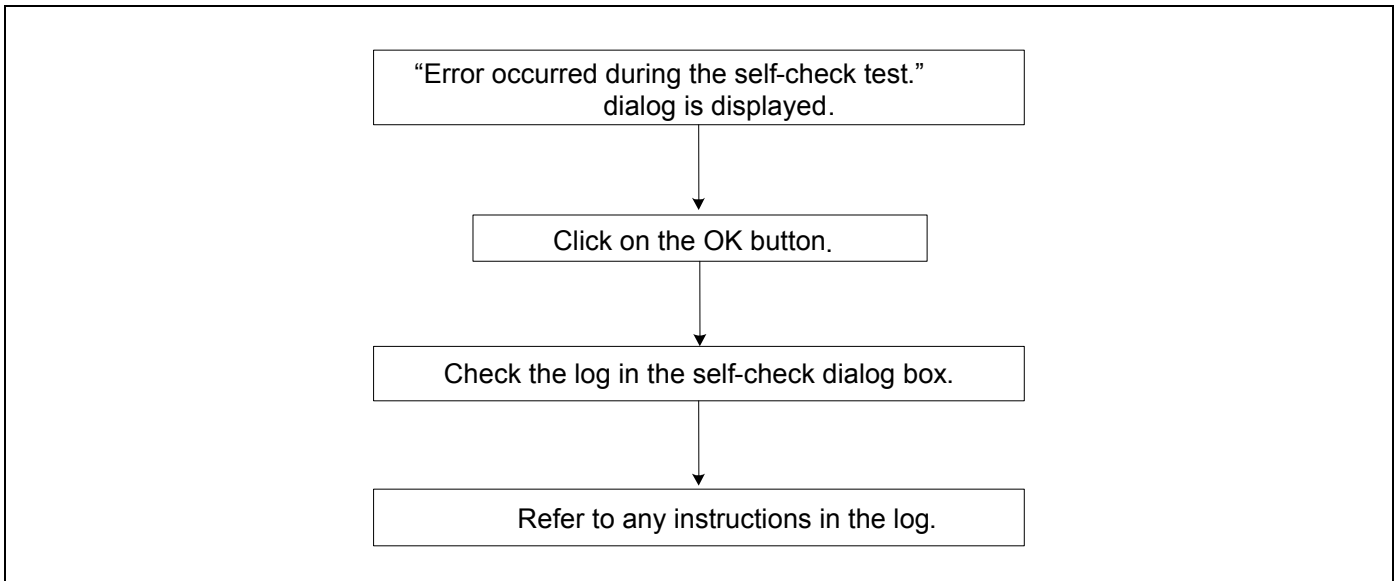

Figure 6.2 Flowchart for checking of an error in self-checking
- (1) Re-check the connection between the E100 emulator main unit and the MCU unit.
- (2) Download the proper firmware again.
- (3) Check the error log from self-checking by the debugger software, and refer to the instructions given therein. (See Figure 6.2)